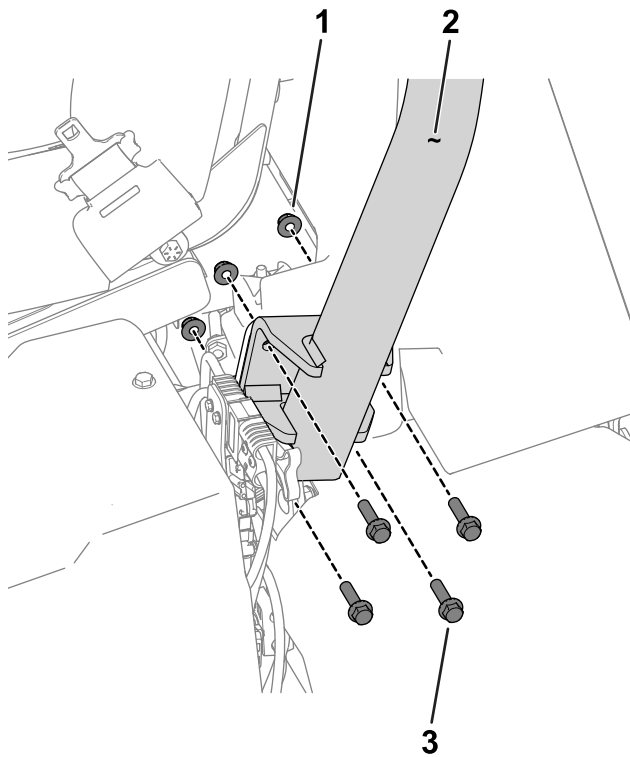

Figure 3
3. Use 8 hex-head bolts (3/8 x 1-1/2 inch) and 8 nuts (3/8 inch) to secure the roll bar to the roll-bar brackets on each side of the machine (Figure 3).